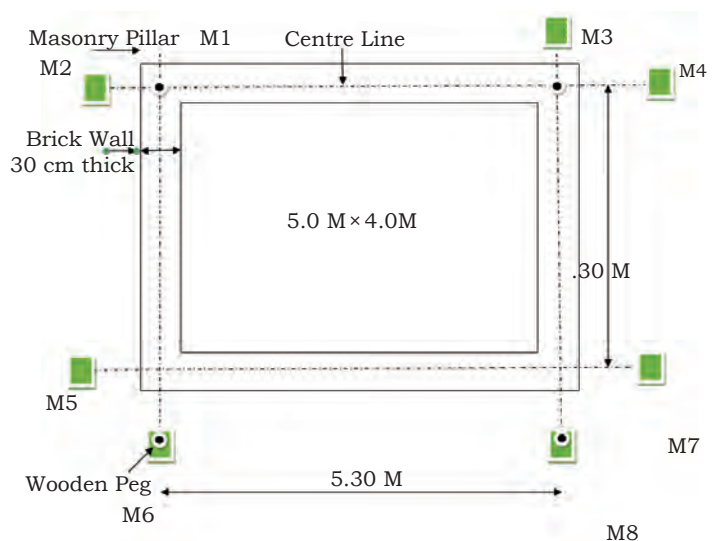

Fig. 5.1: Foundation Plan
1. From the site plan, one line (A-A”) may be established and selected. This may be used as a base line for the entire work. (Fig. 5.1)